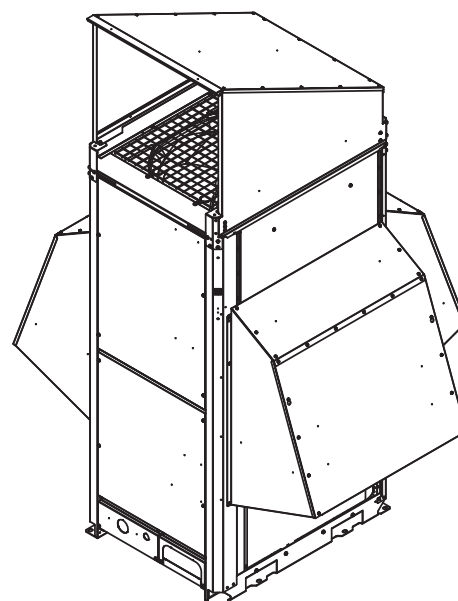

Fig. 2-4-17
In locations where wind-blown snow can be a problem, snow-proof vents should be fitted to the unit and direct exposure to the wind should be avoided as much as possible. (Fig. 2-4-17)
- a) The platform should be higher than the maximum snow depth. (Fig. 2-4-17)